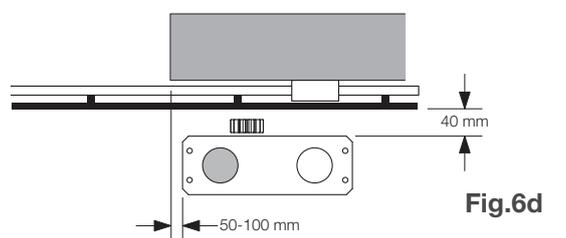

Fig.6d
- Fig. 6d installation with motor on the right